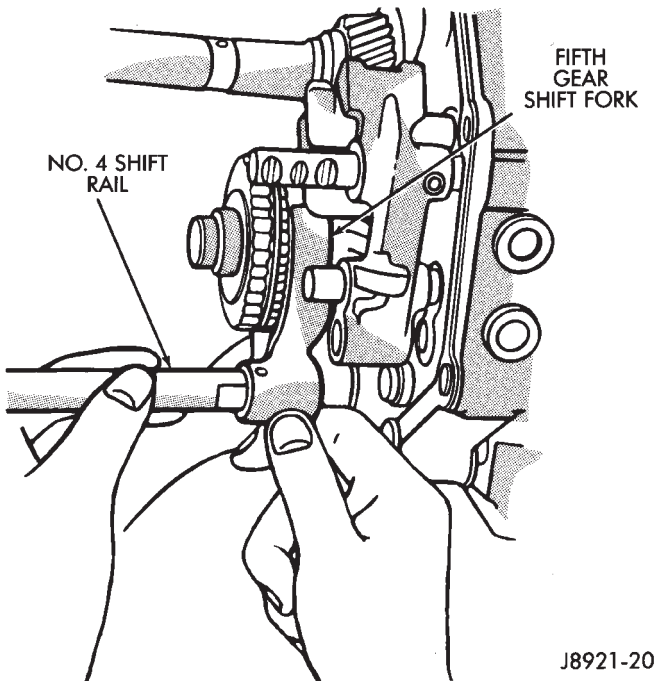

Fig. 12 Removing No. 4 Shift Rail And Fifth Gear Shift Fork
(6) Remove No. 4 shift rail, fifth gear and No. 3 shift fork (Fig. 12).